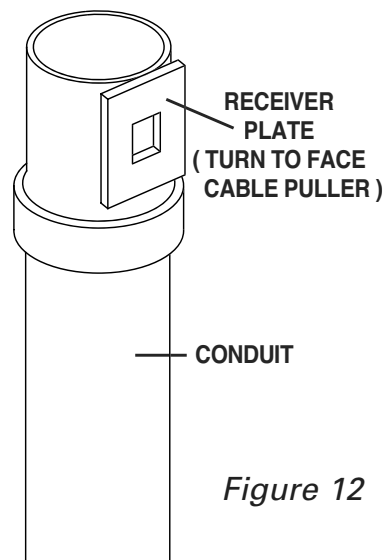

Figure 12
2. Thread coupling onto the conduit until tight. Then, slightly back off coupling until the coupling receiver plate faces the direction where the puller will be positioned. See Figure 12.